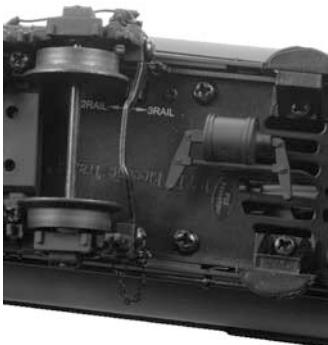

Figure 4: 2-rail / 3-rail switch
2. Change the power input from 3-Rail to 2-Rail as seen in figure 4 (*below*).